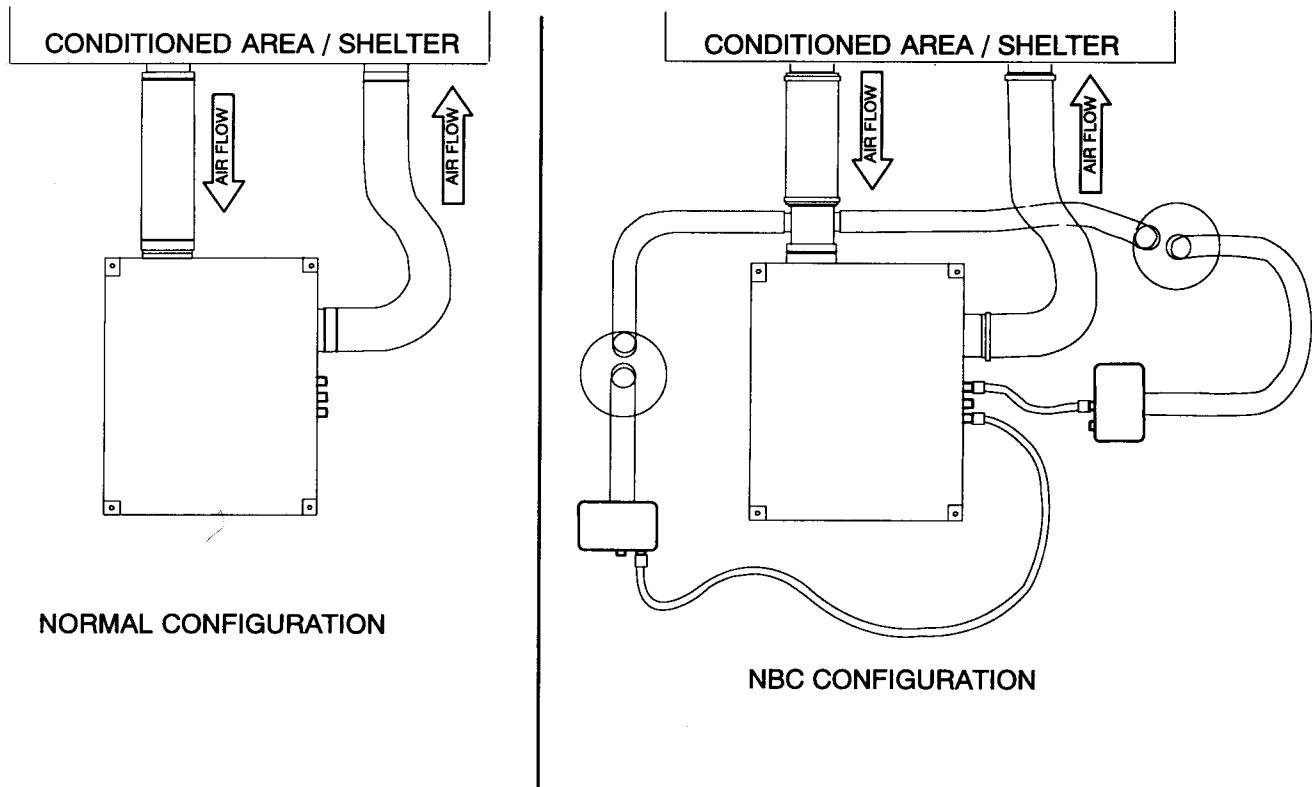

Figure 1-4. Equipment Configurations
1.14 **EQUIPMENT CONFIGURATION.** The FDECU can be configured for use in either normal environmental conditions or NBC environmental conditions. Use in NBC environmental conditions requires using the NBC adapter kit and two M-28 NBC filter blower assemblies. Refer to figure 1-4.